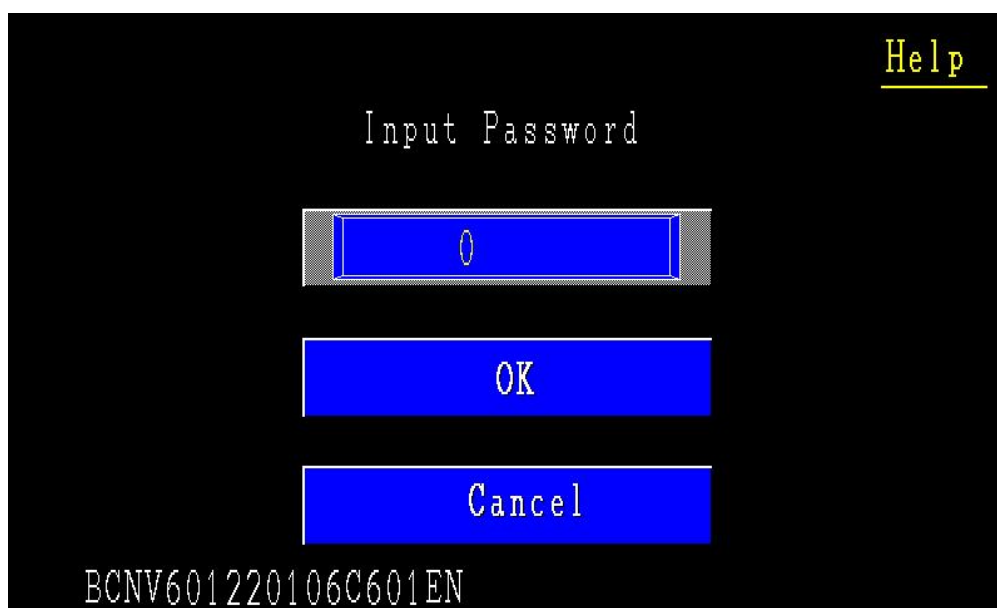
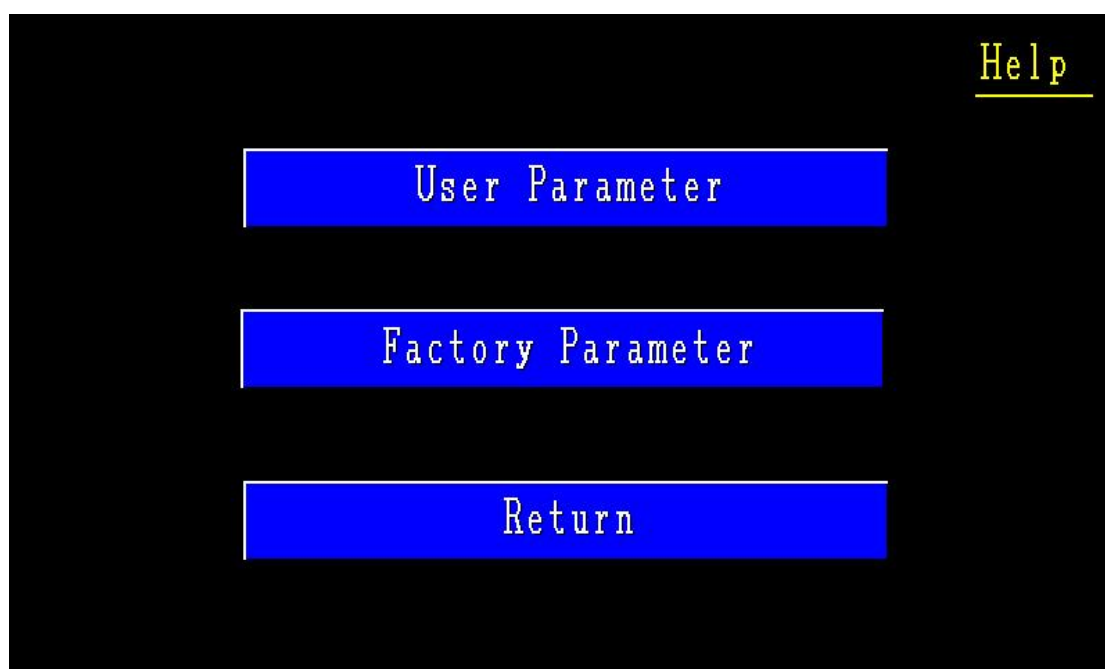

Fig. 2
Fig. 3
Turn on the sterilizer power switch. The power indicator at the lower left end of the LCD touch screen lights up. The system enters the power-on interface, e.g., (Fig. 2). Note: The sterilizer should always be powered on during the sterilization cycle.
Click the "set" button at the bottom right of the "operation interface", and select the "User Parameters" option. Enter the "User Parameter Setting" setting interface (please refer to Fig. 2 and Fig. 3). Note: Manufacturer's parameters require a password to access. User is not allowed to modify.
3) After confirming the setting of the above parameters, return to the operation interface.(Fig. 2)